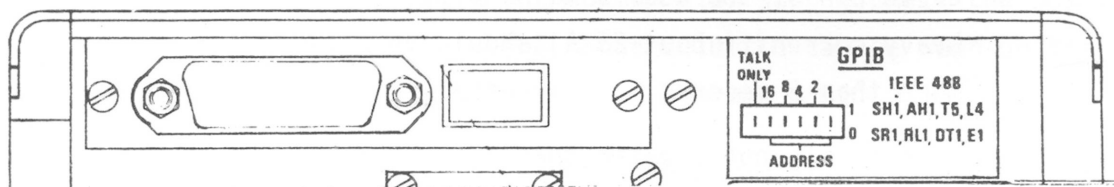

Fig.1 Fitting the GPIB interface
- (1) Switch the instrument off and disconnect from the supply.
- (2) Remove and discard the rectangular cover plate from the top left hand side of the rear panel, also remove the instruments top cover. Insert the cable and p.c.b. through the rear panel such that the GPIB connector is on the left hand side. Using the two retaining screws from the cover plate, secure the GPIB assembly to the rear panel.
- (3) Remove the top PCB AA02 and connect the interface plug to PL2 on AA02. Replace the PCB AA02 and secure with the six retaining screws.
- (4) Add the supplied label to the rear panel to identify the GPIB connector and address switch as shown in Fig.1. Replace the top cover.